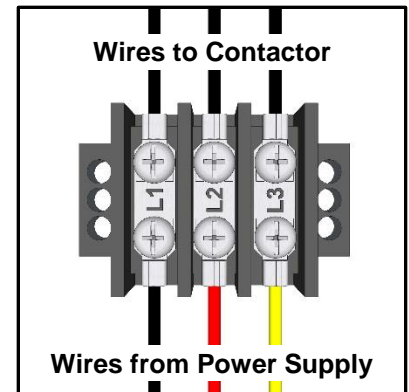

Figure 7
- 1** Have your certified electrician connect power to the 3 terminal T-bar and ground wire to grounding block. (see Figure 7)